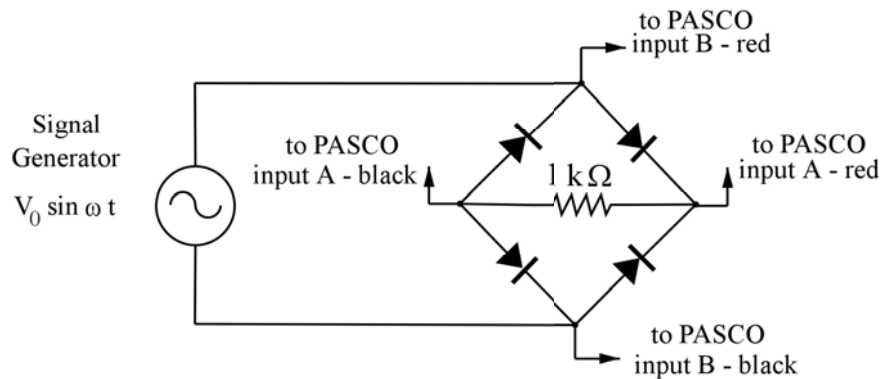

Figure 15. Full wave rectifier circuit
1. Hook up the circuit shown below in Figure 15.
3. On the circuit diagram in Figure 15, draw the path that the current takes through the rectifier circuit when the input voltage is positive. Use a dashed line to draw the path that the current takes through the rectifier circuit when the input voltage is negative. Make sure your paths are clear and well marked.